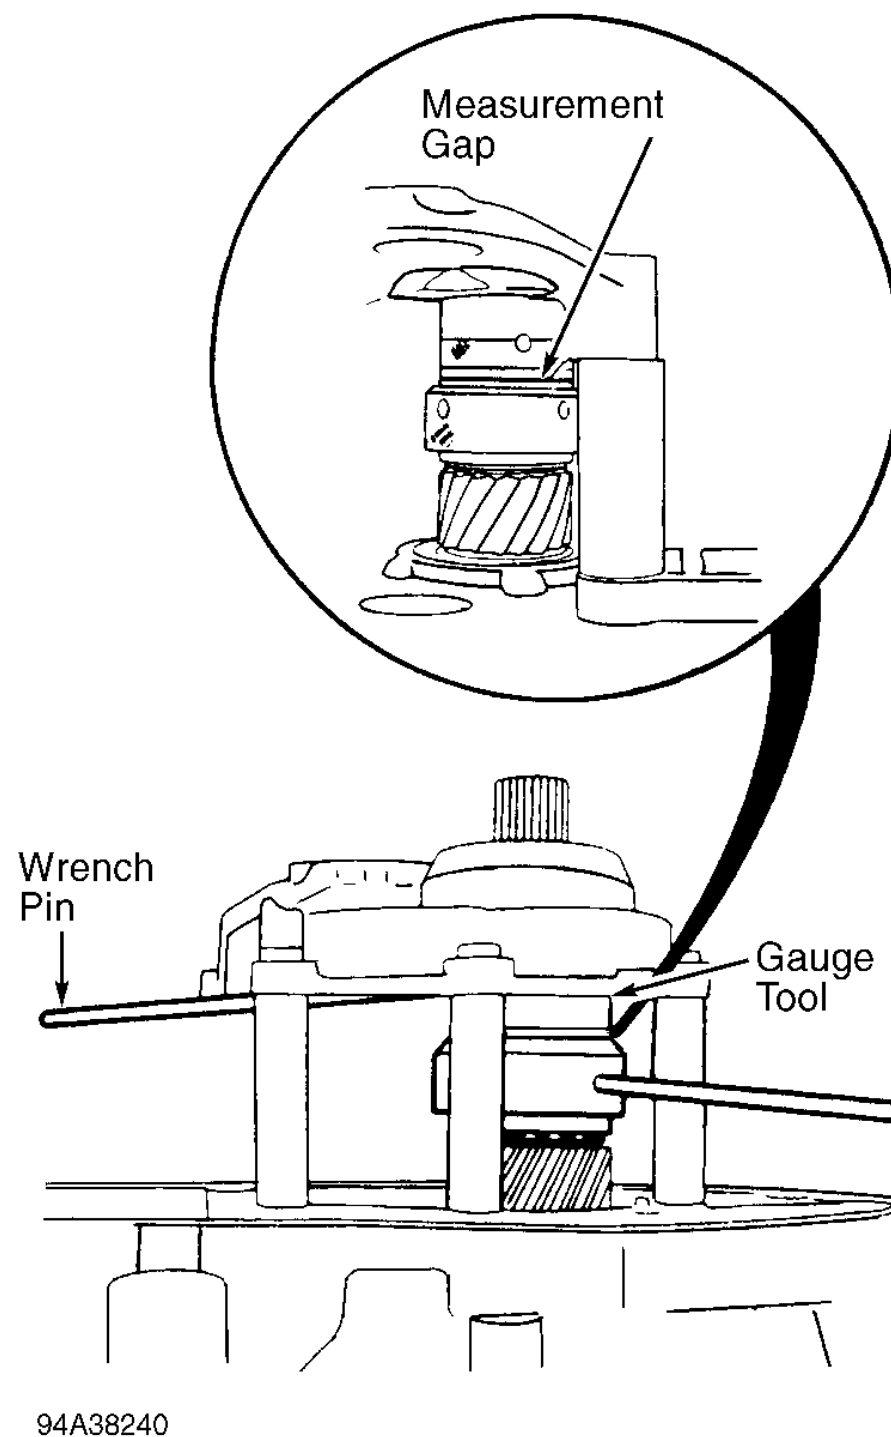

Fig. 24: Measuring Output Shaft Bearing Preload
1. Position output shaft into torque converter housing. Position output shaft outer bearing race in recessed end of Gauge Tool (T87C-770002DJ). Place gauge tool over output shaft. See Fig. 24 .
2. Ensure gauge tool is completely threaded together so that no gap is present. Position spacer collars and assemble output bearing and idler support to converter housing using supplied bolts and washers of tool set. See Fig. 24 . Tighten bolts to 14-19 ft. lbs. (26 N.m).